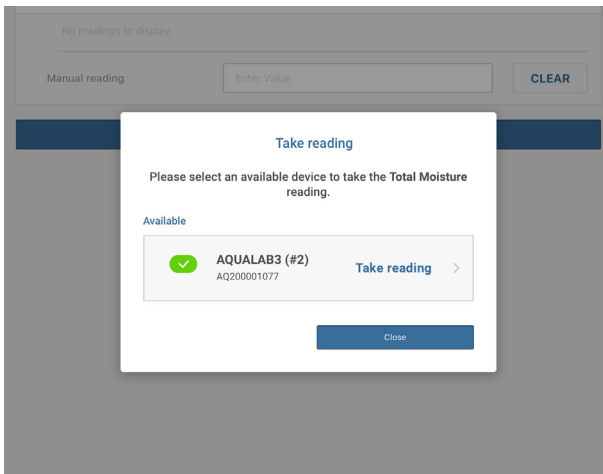

Figure 62 Take reading popup window
7. Select Take reading to the right of the device name shown in the Take reading popup window (Figure 62).